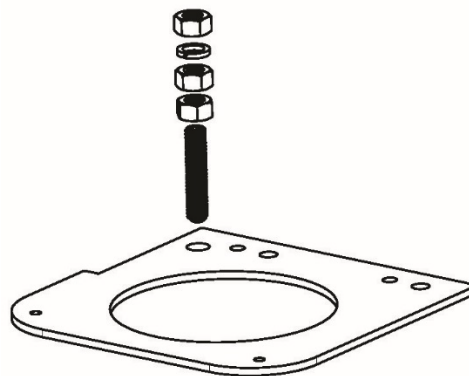

Figure 2 – Ground Location
10. Disconnect the Soft Start ground wire and mains input ground wire by removing the two (2) top nuts and from the ground post on the compressor housing at 3-phase connection point. Refer to Figure 2 (Ground Location).